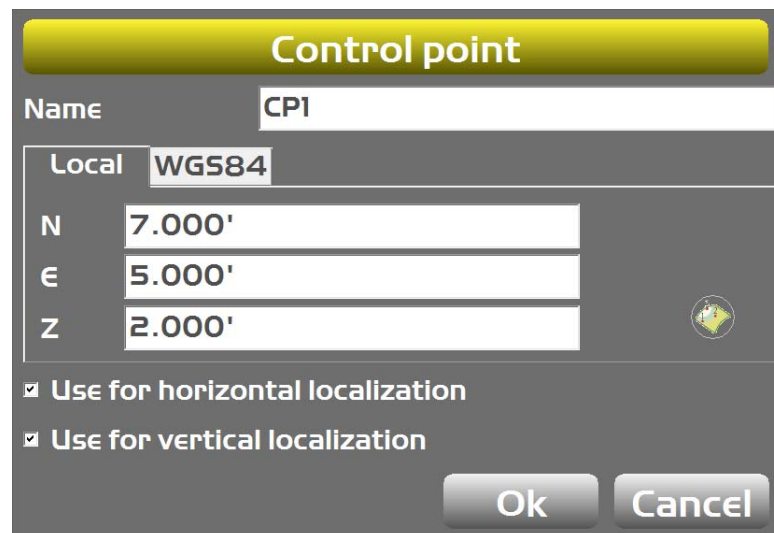

Figure 23: Control Point Screen
1. On the **Control points** tab list, tap **Add**. The **Control point** screen appears (Figure 23).